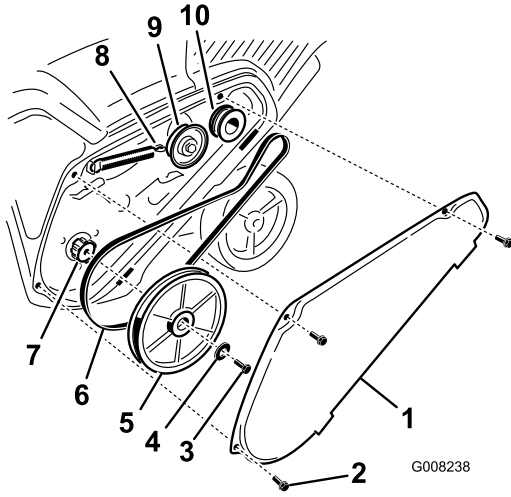

Figure 37
1. Remove the drive belt cover by removing the 3 bolts as shown in Figure 37.
2. Unhook the brake spring from the idler arm to release the belt tension (Figure 37).
3. Remove the screw and curved washer that holds the rotor pulley (Figure 37).
4. Remove the rotor pulley and the drive belt (Figure 37).
the loose rotor pulley positioned just above the rotor shaft (Figure 37).
6. Install the rotor pulley onto the rotor shaft (Figure 37).
7. Install the curved washer and the rotor pulley bolt and tighten them securely (Figure 37).